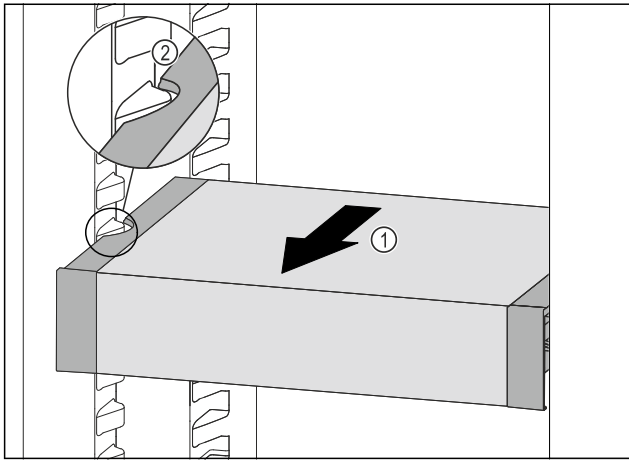

Fig. 40
- ▶ Pull VarioSafe forwards Fig. 40 (1) until the recesses in the side of the VarioSafe are at the level of the support rib in the refrigerator compartment. Fig. 40 (2)